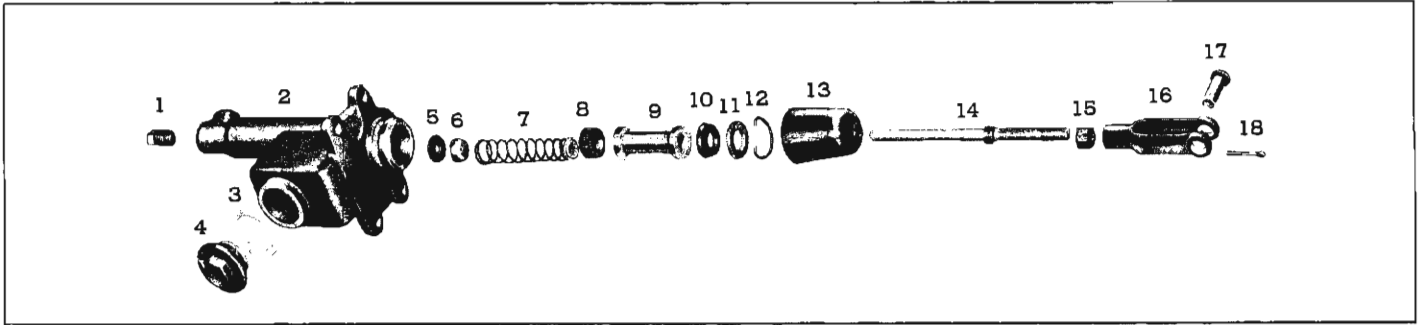

Fig. 20—Main Cylinder
**Disassembly (See Figure 20)**